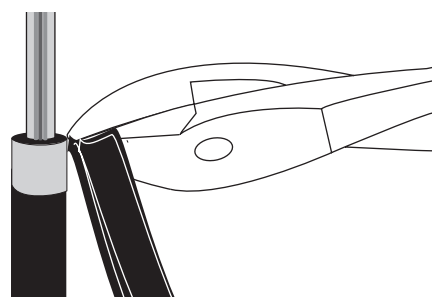

Figure 7
4.8 At the ring cut, carefully flex the sections of sheath and remove them. Side cutters may be helpful in removal (Figure 7).